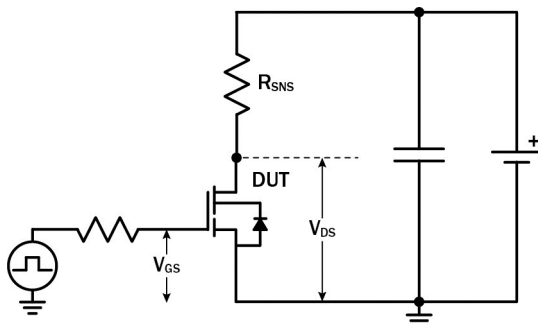

Figure 5. Dynamic $R_{DS(on)eff}$ Test Circuit
- Dynamic on-resistance; see Figures 5 and 6 for test circuit and conditions